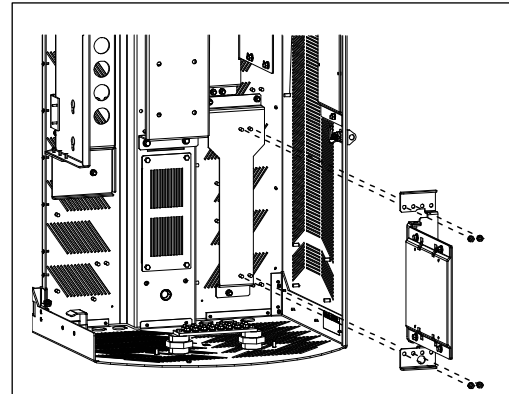

Figure 13 Remove AC-08 Bracket
1. Remove the AC-08 bracket (Figure 13) from the threaded mounting studs by removing the four Keps nuts. Save the mounting nuts. Store or discard the bracket per company practice.